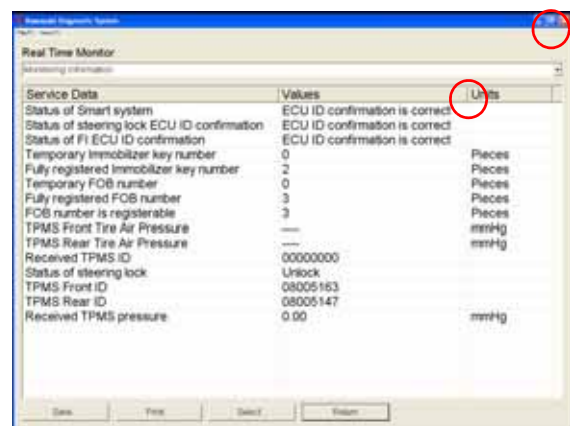

Fig. 5-11 Real Time Monitor
- ~ To see the screen more clearly, you can maximize the screen and enlarge the column widths (Fig. 5-11).
- o Select **Save** (Fig. 5-11).
- o Select **Print** (Fig. 5-11).